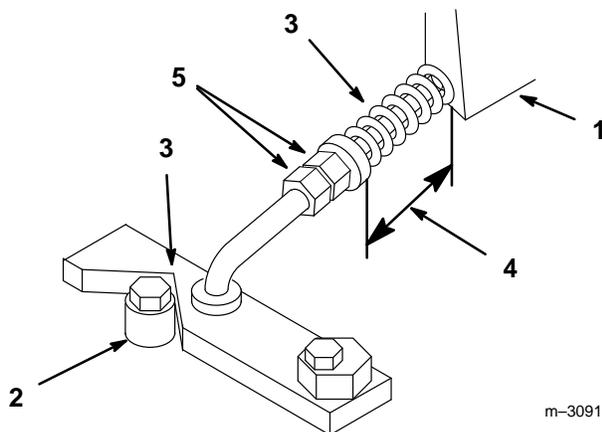

Figure 27
2. Check that roller is centered in “V” notch of left and right control plates (Fig. 27).
3. Check compressed length of left and right neutral return springs (Fig. 27).
4. Adjust jam nuts until springs are compressed 2-1/8” to 2-3/16” (54 -56 cm) (Fig. 27).